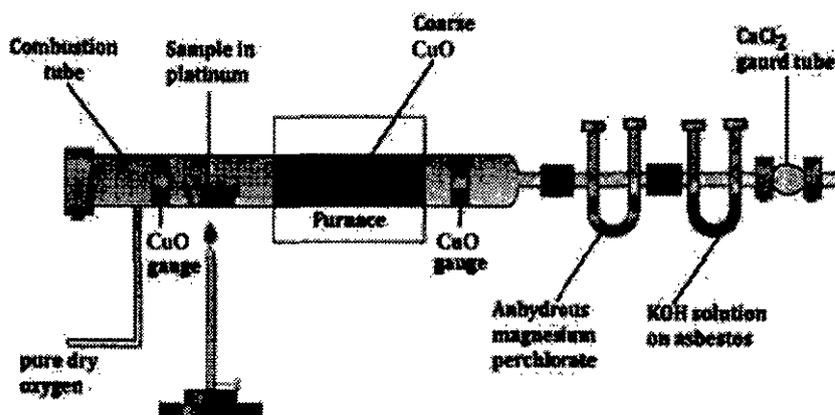

Fig 11.2 Estimation of Carbon and Hydrogen
The apparatus employed for the purpose consists of three units (i) oxygen supply (2) combustion tube (3) absorption apparatus. (Refer Page 153 Fig. 11.2)